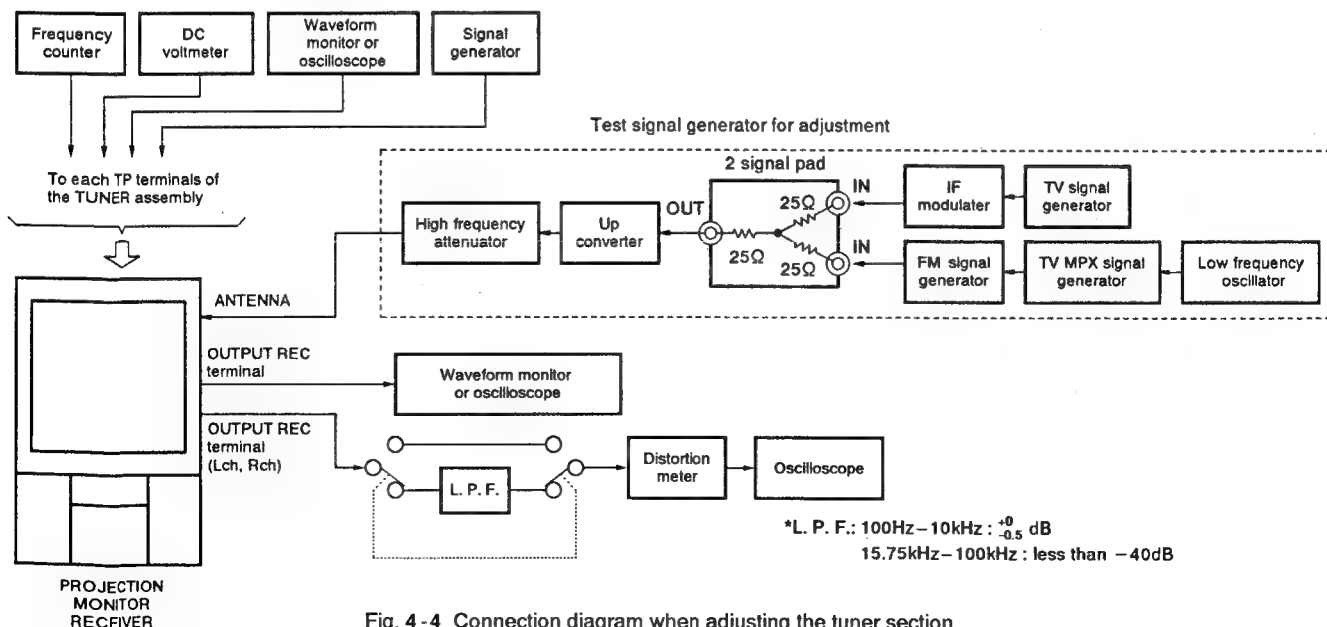

Fig. 4-4 Connection diagram when adjusting the tuner section
- Connection diagram is referred to Fig. 4-4.